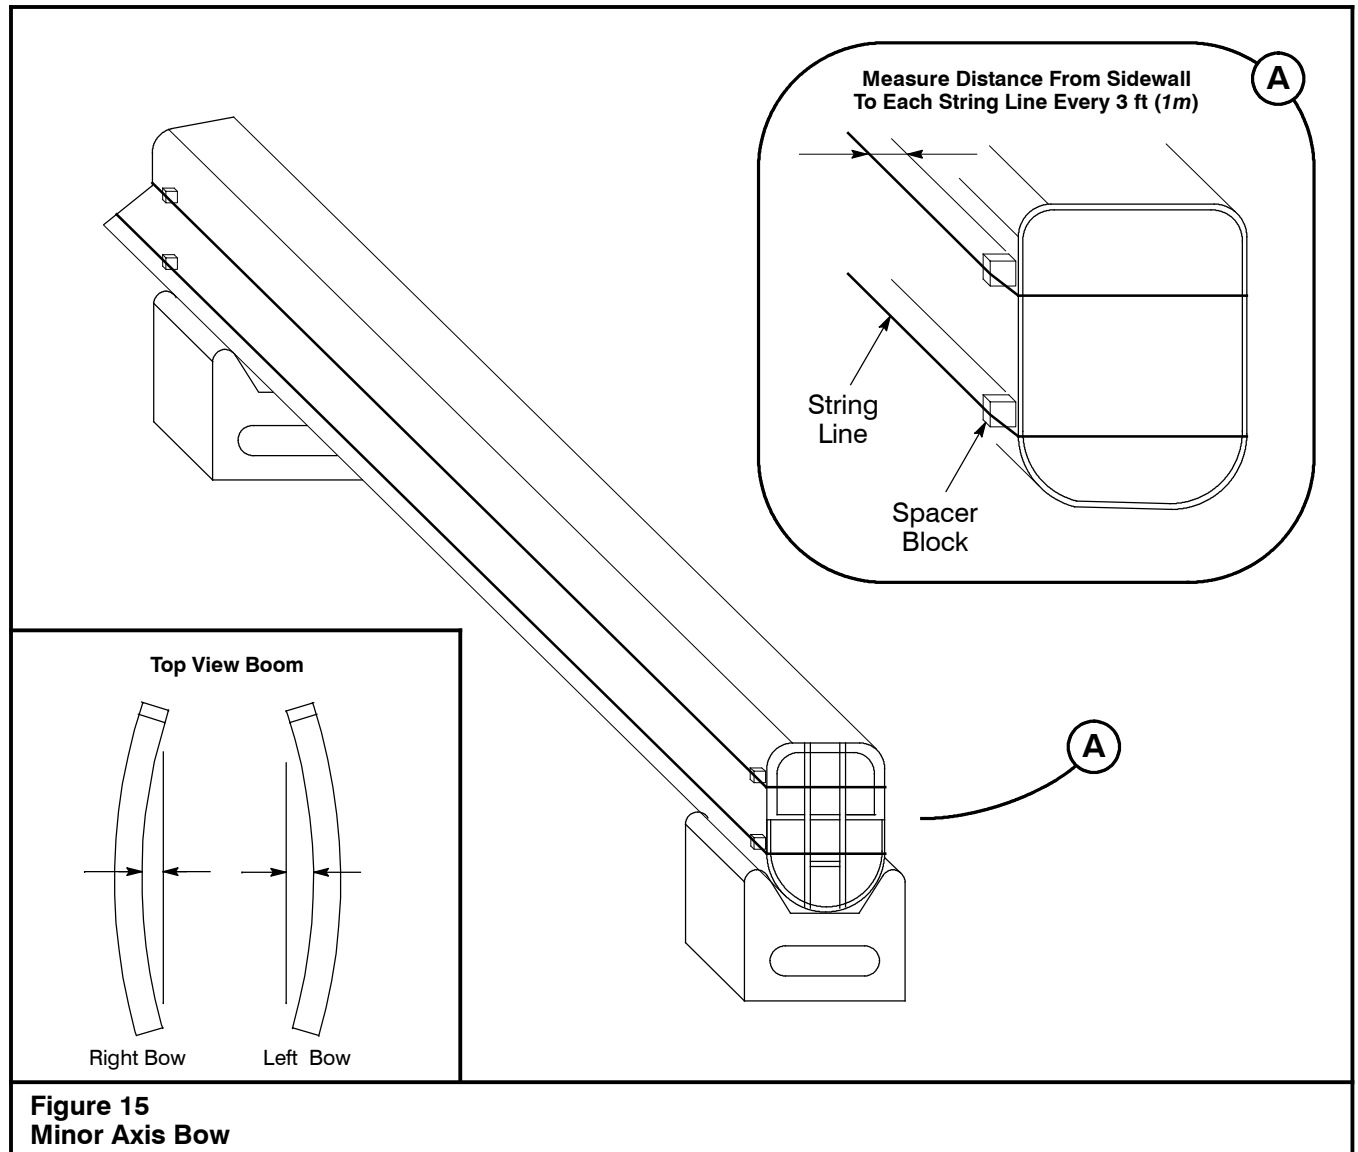

Figure 15
Refer to Figure 15.
5. Pull a string over each spacer block and tie it to the very end of the boom section. See Figure 15.